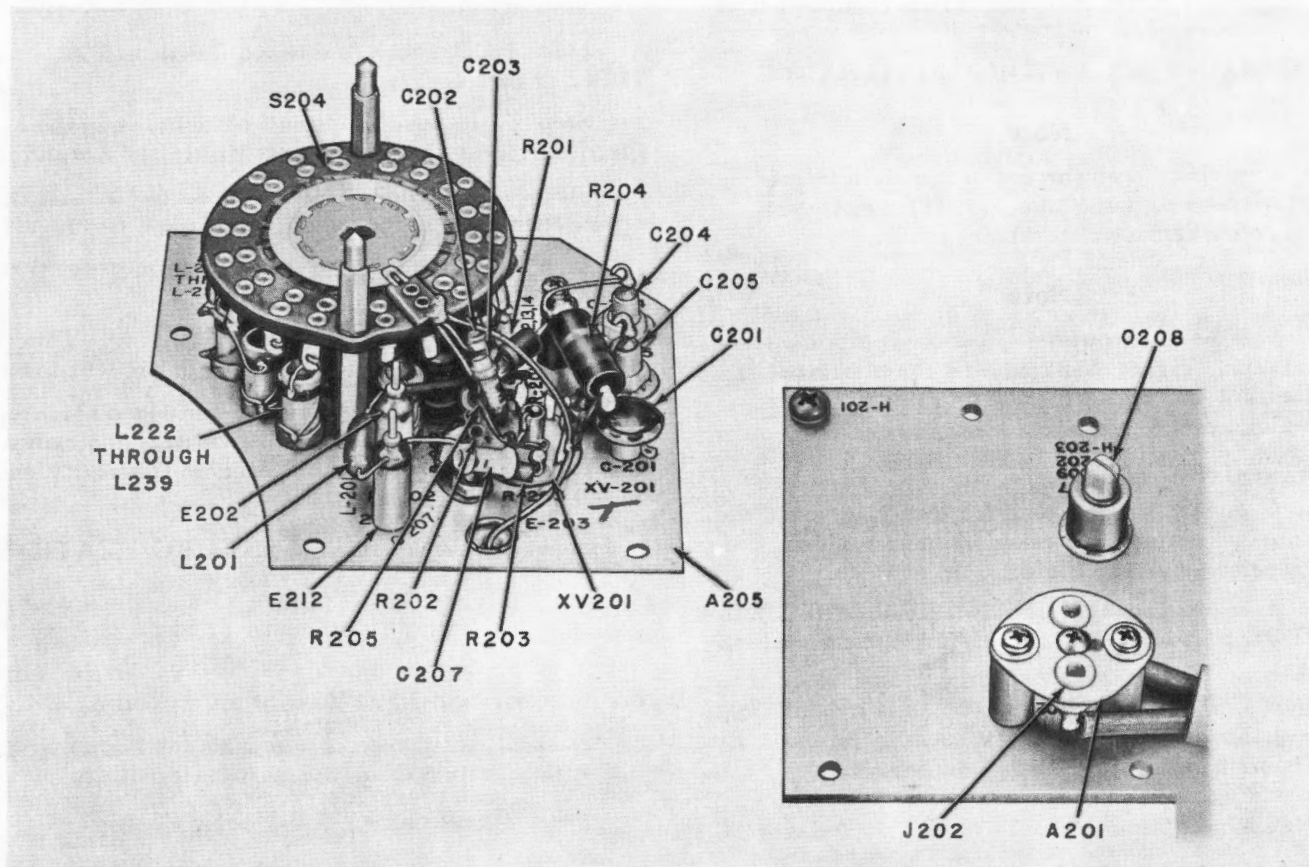

Figure 6-32. Radio Receiver R-278B/GR, Main Oscillator, Underside View
Step 2. Set S204 (figure 6-32) in the closed position for coil L222 (220.0-mc position).